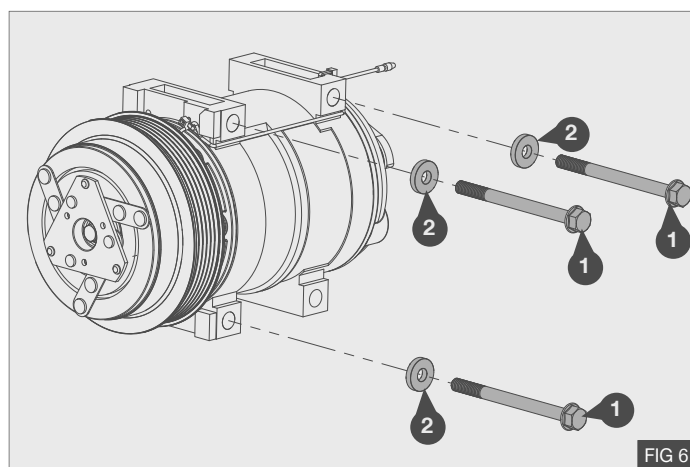

FIG 6
2. Install the compressor to the engine using supplied bolts ① with spacer washer ②. Install the front bolts before the rear bolt. Torque the M8x100 bolts ① to 17Nm / 13lb.ft. using a calibrated torque wrench – Fig 6